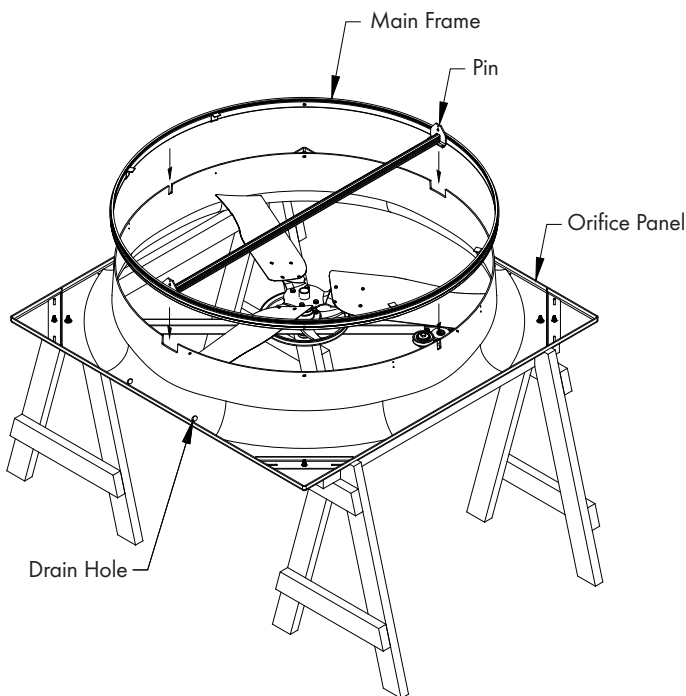
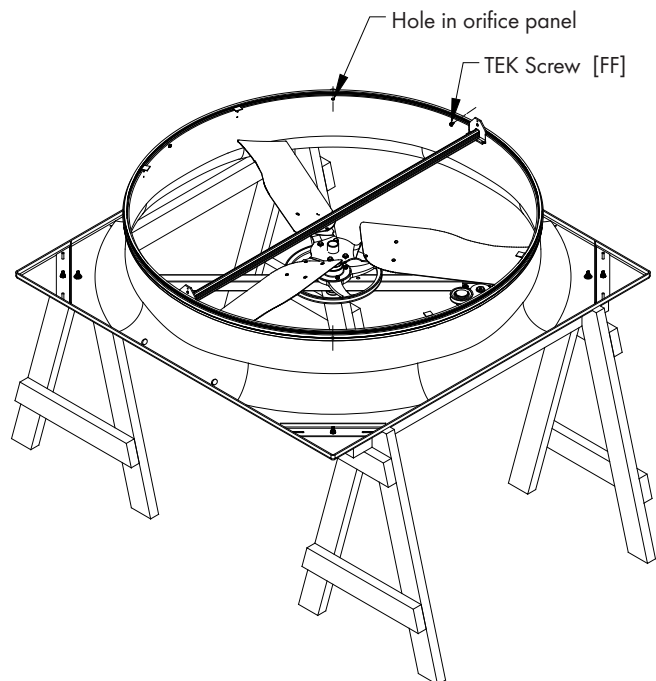

Figure 8A
Figure 8B
Slide Main Frame Assembly onto Orifice Panel with pin on Main Frame opposite the drain holes. See Figure 8A. Line up 4 holes in Main Frame with holes in the Orifice and fasten using (4) TEK Screws [FF]. See Figure 8B.